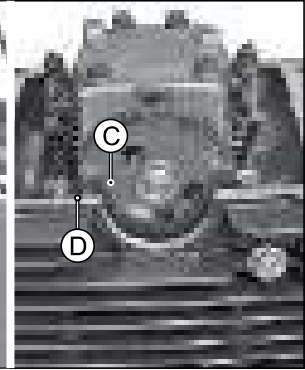

Fig. 3.206B
- At this position, ensure that the mark (C) on sprocket cam shaft matches with the surface edge of head complete cylinder (D). (Fig. 3.206B)